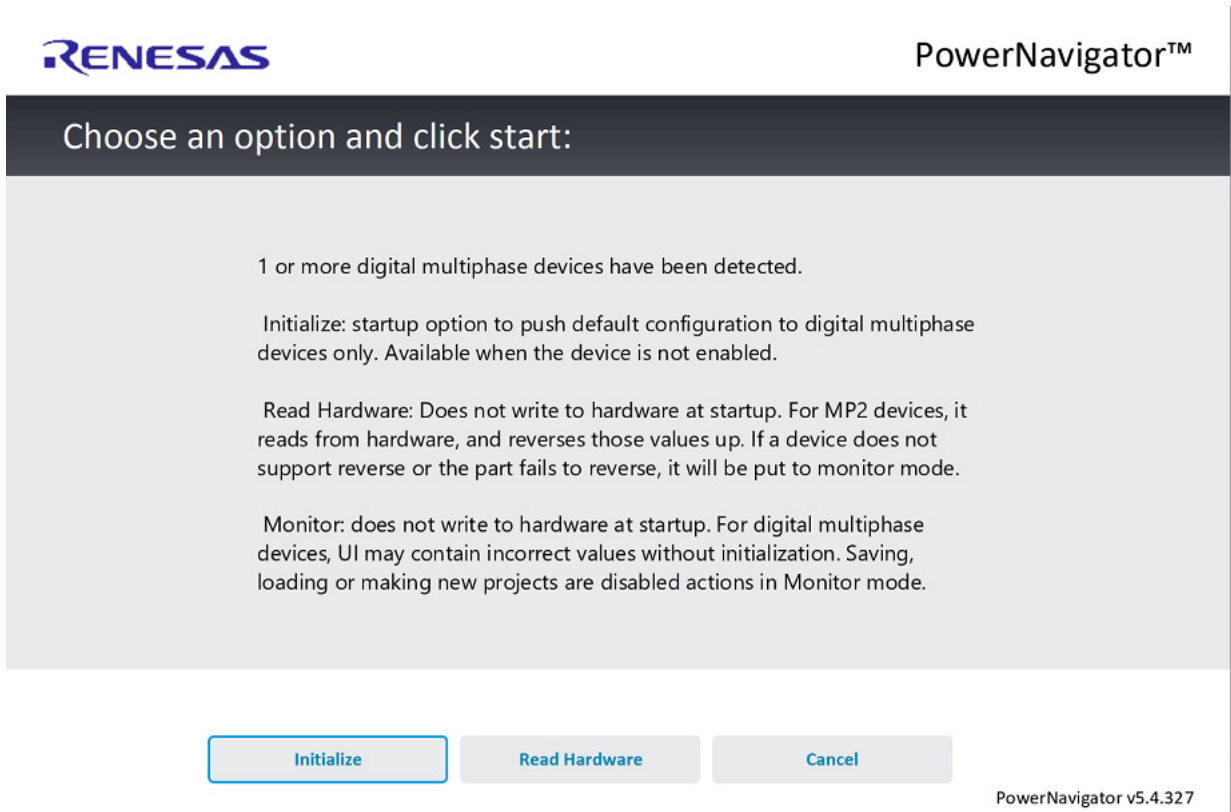
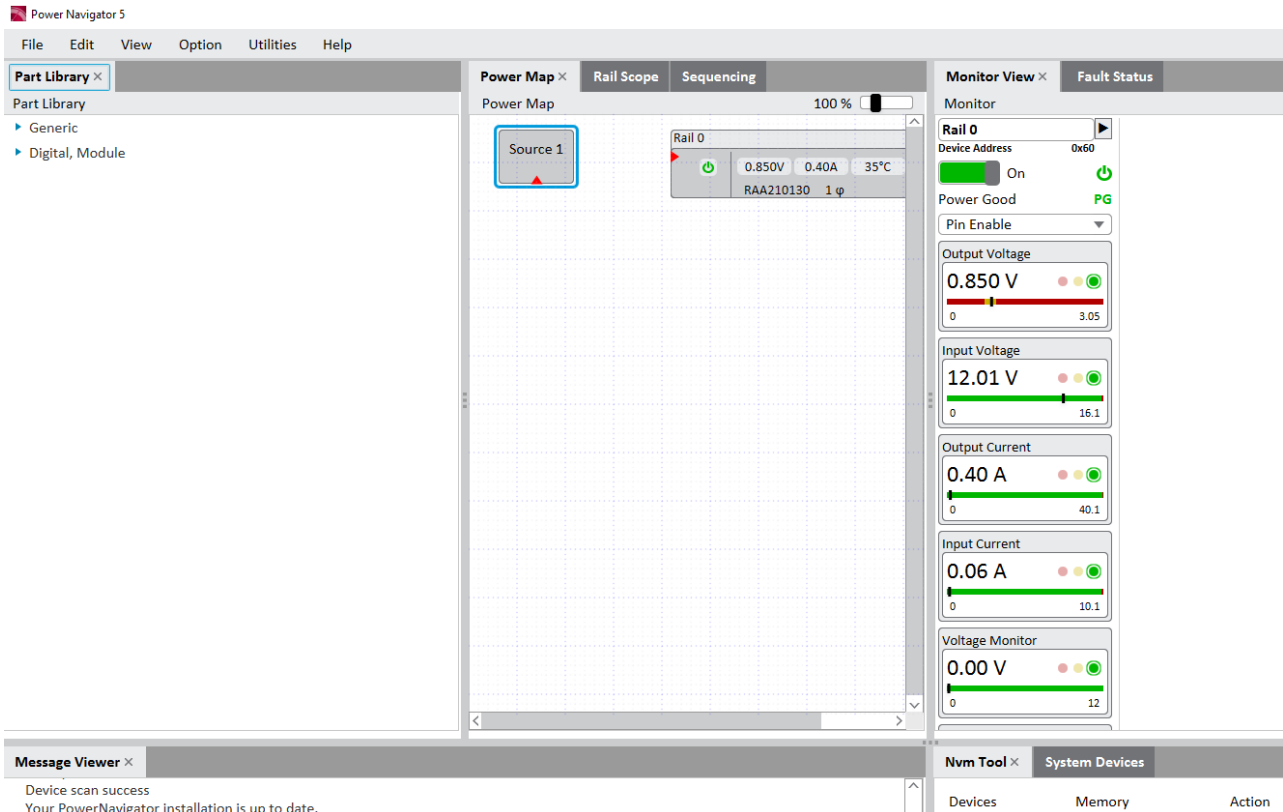

Figure 3. PowerNavigator Initialization Page.
Figure 4. PowerNavigator Monitor View Page.
- Hit the **Start** button. Hit **Read Hardware** in the next screen as shown in Figure 3. A new page shown in Figure 4 appears.